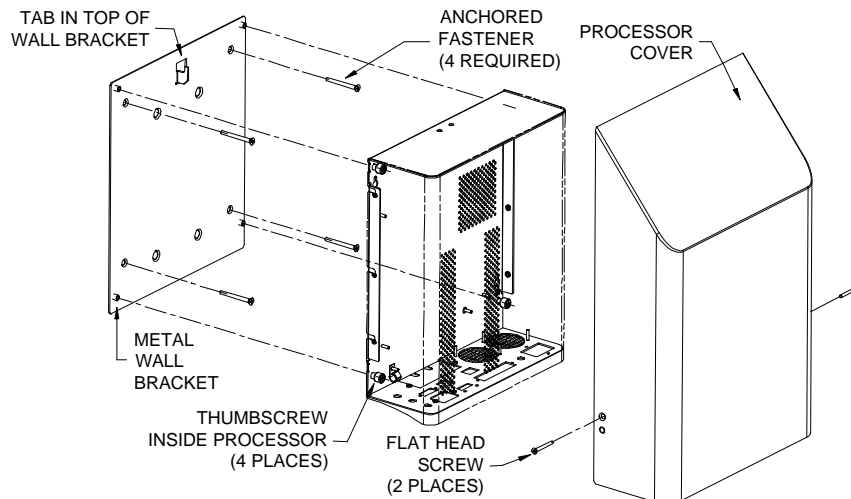

FIGURE 14 - WALL BRACKET MOUNTING OF PROCESSOR
1. With the tab in the metal bracket towards the top, use the bracket as a guide to locate the four holes needed to secure the bracket on the wall. Once you have drilled the four holes, install the metal bracket using sufficient hardware to support the weight of the processor (17 pounds or 25 pounds with optional processor cover). Remember to leave 2-3" around the box for ventilation. See Figure 14.
4. Hang the processor on the wall bracket with the connectors facing downward. The tab on the wall bracket should fit in the slot at the top of the processor. With the processor on the wall bracket, tighten the 4 thumbscrews found inside the processor to secure it to the bracket. See Figure 14.
6. If you are installing the processor cover, place the cover over the processor (with the connector side of the processor remaining accessible) and secure it to the processor with the 2 supplied flat head screws (6 - 32 x 1 L) as shown in Figure 14.